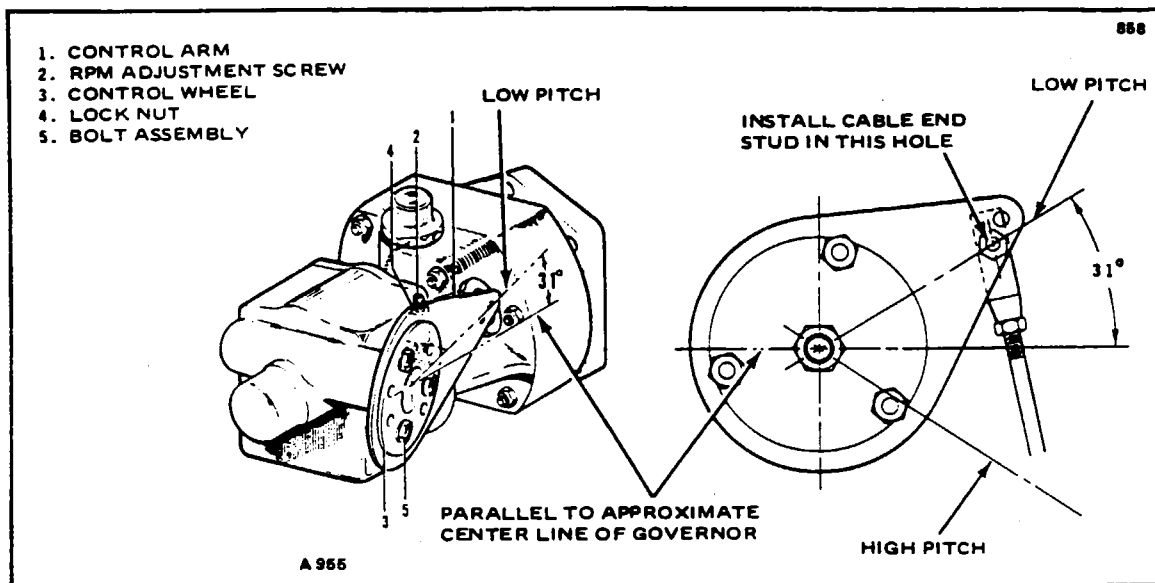

Figure 8-3. Propeller Governor
8-11. RIGGING AND ADJUSTMENT OF PROPELLER GOVERNOR. (Refer to Figure 8-3.)
1. Insure that the governor control arm is located approximately as shown on figure 8-3.
- c. To check high RPM, low pitch setting, move the propeller control all the way forward. At this position the governor speed control arm (1) should be against the high RPM fine adjusting screw (2). With the throttle full forward, observe engine RPM, which should be 2700 RPM with high RPM properly adjusted.
5. Ascertain that the governor control arm (1) is adjusted to the proper angle on the control wheel (3) as shown in Figure 8-3.